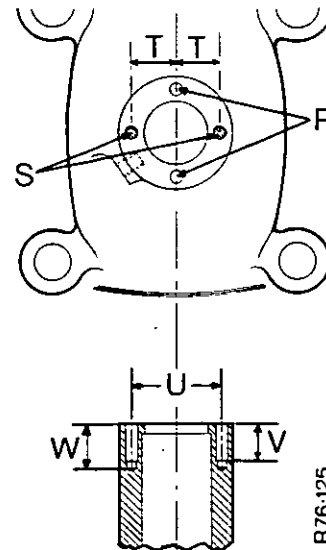

FIGURE 139. COVER FOR THE RAM CYLINDER
5. Do not remove the needle rollers unless they are damaged. If the needle rollers break in their holes, do not try to drill them out. The needle rollers are too hard, they will damage the drill. Grind the needle rollers until they are level with the surface of the boss. Do not grind the boss surface. Drill the two new holes in the boss as shown in Figure 139. Use a 4.5 mm diameter drill to the depth of 19.05 mm. Ream the hole to 4.73 mm – 4.75 mm diameter to a depth of 15.9 mm.